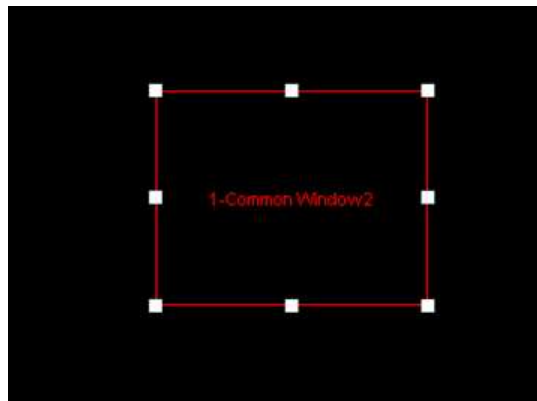

Fig 4-14 Adjusting the Window Size Using the Mouse
- b) Click the display window on the screen and adjust its size by using the mouse, as shown in Fig 4-14: